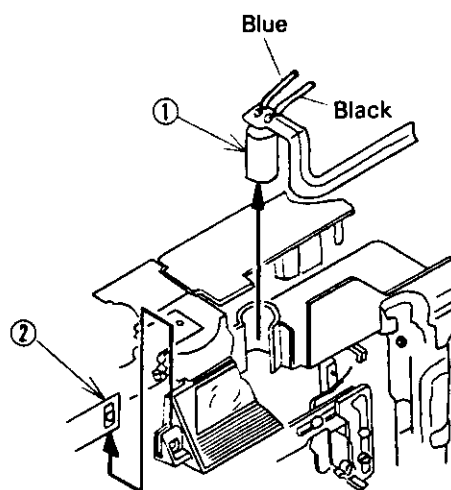

Fig. 4
- (1) Remove the Capacitor on the Power supply FPC from the Viewfinder frame. (Fig. 4 No. 1)
- (2) Remove the Self LED on the AE FPC from the Viewfinder frame (Fig. 4, No. 2)
- (1) Detach the soldering of two Lead wires (Blue, Black) from the Motor shown in Fig. 4.
- (2) Take off two Screws (P. 28 No. 43, 44) and remove the P lever plate ass'y (P. 28 No. 41).
- (3) Remove the P lever ass'y (P. 28 No. 40).